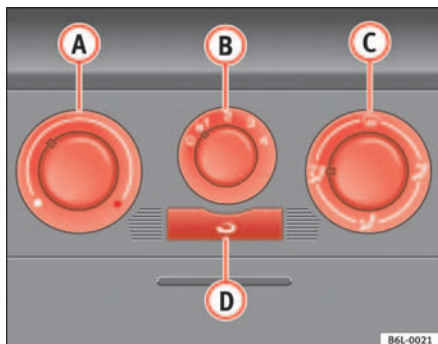

Fig. 83 On the dash panel: Heater controls
- Using the controls ⇒ fig. 83 **A** and **C** and with the switch **B** you can set the temperature, air distribution and the blower speed.